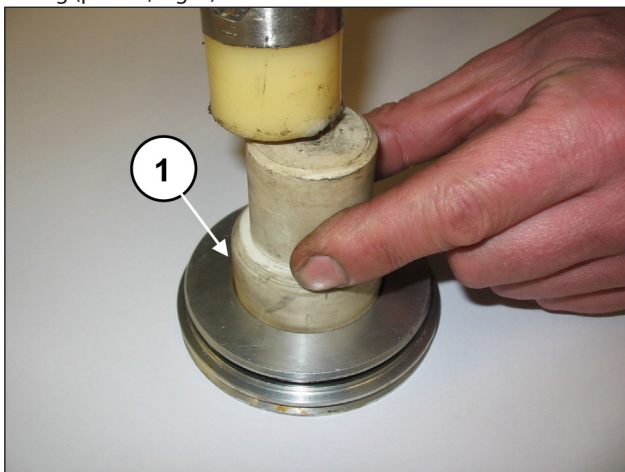
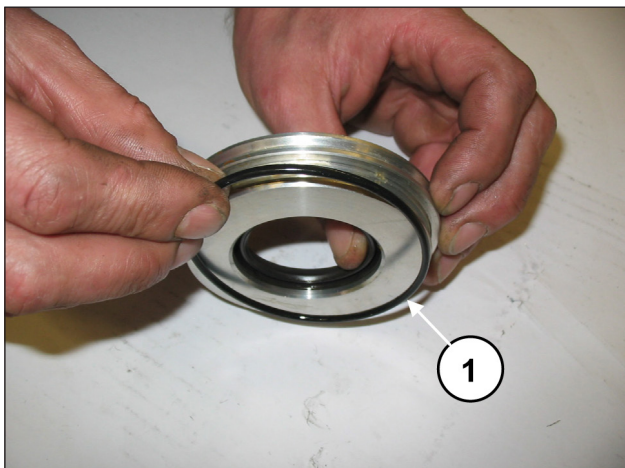

Fig. 5
Fig. 6
Take out the radial seal ring (pos. ①, Fig. 5) and the outside O-ring (pos. ①, Fig. 6).